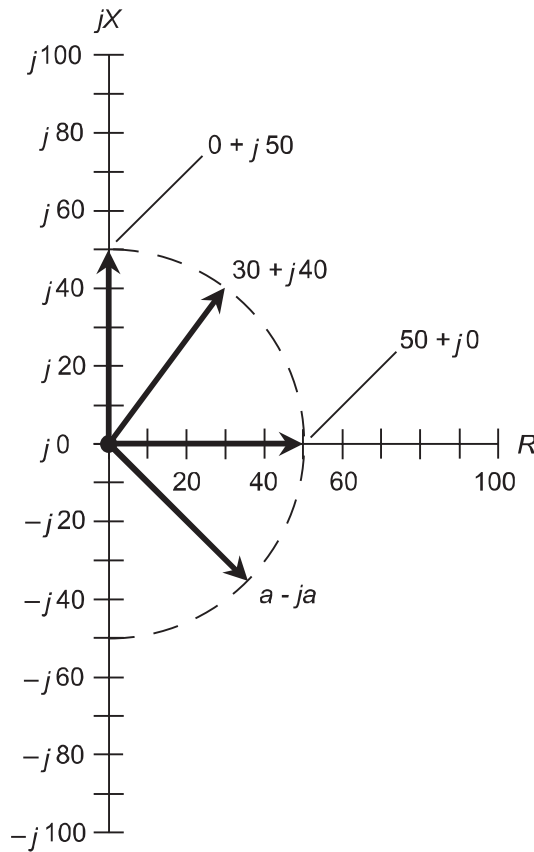

Fig. Test1-1. Illustration for Part One Test Questions 3 through 6.
3. What is the absolute-value impedance, Z , represented by the vectors shown in Fig. Test1-1?
4. The vector pointing straight up in Fig. Test1-1 represents
5. Consider the vector $a = ja$ in Fig. Test1-1. What is the approximate value of the constant, a ?
6. In Fig. Test1-1, which, if any, of the vectors represents a pure resistance?